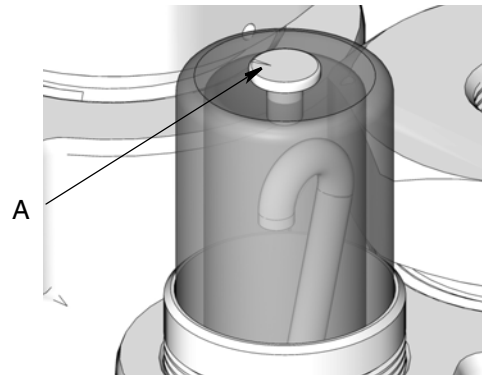

FIG. 9
- Check the vent plug (A) for proper sealing. Any knicks or cracks in the rubber plug will cause an air leak into the sight glass (FIG. 9).